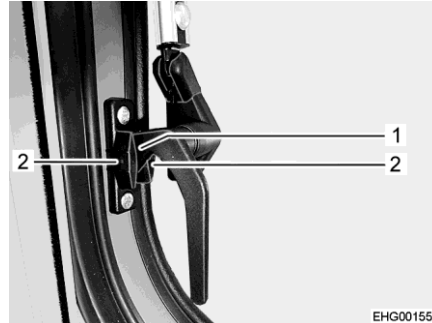

Fig. 52 Catch lever, on the side ("continuous ventilation" position)
- Turn the catch levers on the side a quarter turn downwards. While doing so, drive locking catch (Fig. 52,1) in between the two halves of the locking block.